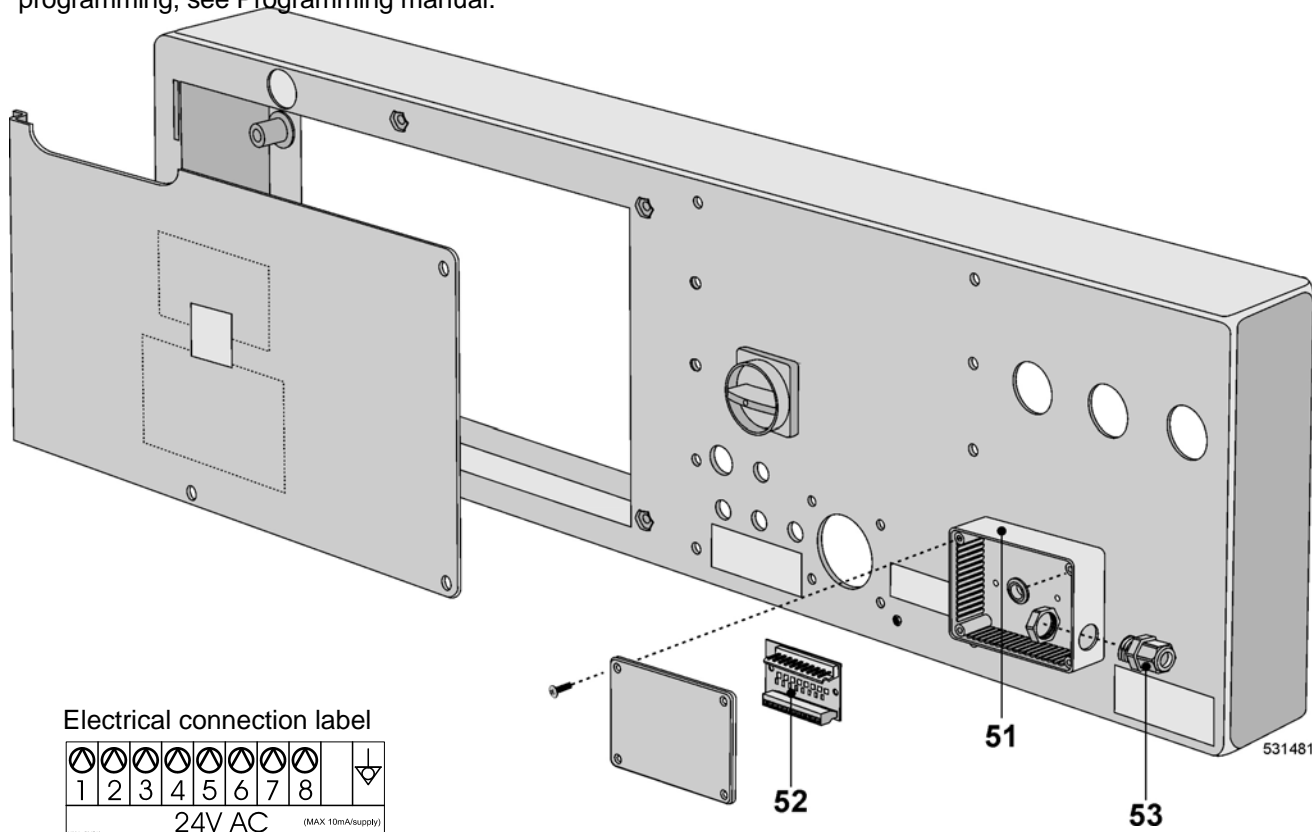

Fig.4.4.G Rear panel 22-33-40-55 kg / 50-80-100-125 lb
For electric connection of supply control signals a plastic box is available on the back side of the machine (see fig.4.4.G., pos.51) with the terminal box with LED signalization of activation of the respective pump, (pos.52). Under the terminal box there is a label for electric connection, fig.4.4.G. Detail connection of signals could be also found on the electric scheme of the machine. Signals for supply pumps control are 24V AC. Maximum current for control circuits of pumps must be limited to 10mA. Lead the cable for connection of pumps control signals through the plastic cable bushing, position 53. After connection of conductors to the respective positions of the connector „P“ (screw clamps), fix up the cable by tightening the cable bushing) against disconnection and close the box with the cover. For details about liquid soap supply system programming, see Programming manual.